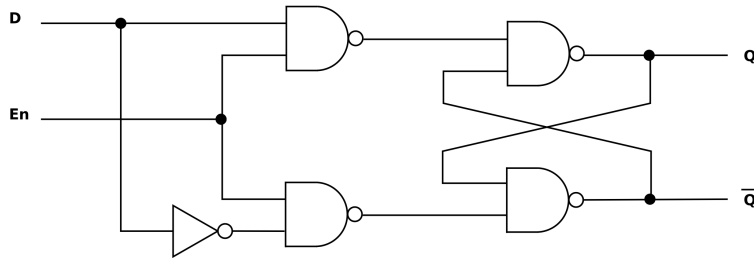
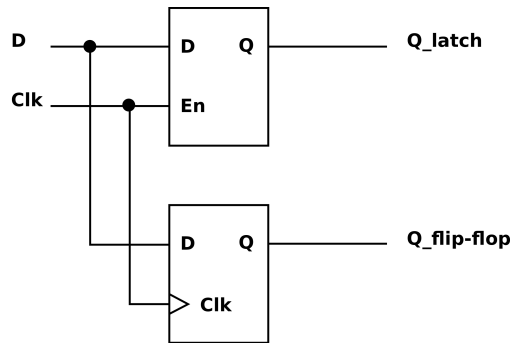
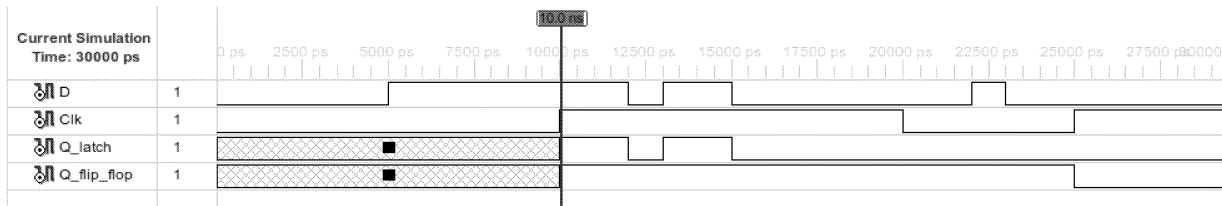

Figure 3: D-latch Gate-level Schematic
Figure 4: Latch/Flip-flop Circuit
Figure 5: Simulation Waveform of Latch/Flip-flop Circuit
latch, as seen in Figure 3. The function table for the D-latch can be found in Table 2. The behavior of the D-latch is simple. When En is high, the input, D , is forwarded to the output, Q (i.e. the input is transparent); however when En is low, the output simply holds the last value of Q .
A D-latch is considered a *level-sensitive* memory device because the output is controlled by the level (i.e. high or low) of the En signal. Conversely, we can create an *edge-sensitive* device such that the output changes when the control signal transitions from low to high or vice versa. This sort of device is known as a flip-flop, and the control signal is usually referred to as a Clock (for reasons which will become clear later in the lab) or Clk for short. Consider the circuit in Figure 4 in which a level-sensitive D-latch and an edge-sensitive D flip-flop are stimulated with the exact same input. Figure 5 depicts the simulation waveform
1. Complete the waveform below given the circuit in Figure 4. For the S and R , assume the D-latch is constructed as shown in Figure 3. You may submit a hand drawn waveform.
- (a) Figure 3 illustrates the gate-level construction of a D-latch. Using the module interface below and the code above as a starting point, describe the D-latch in *structural* Verilog. Assume NOT gates also have a delay of 2ns each.